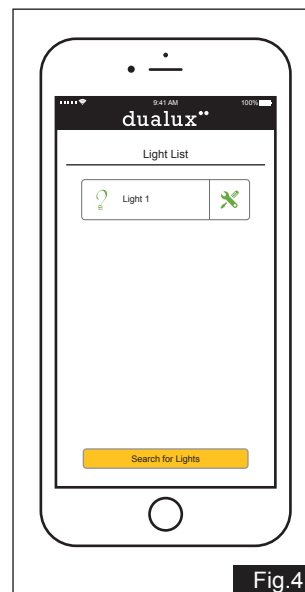
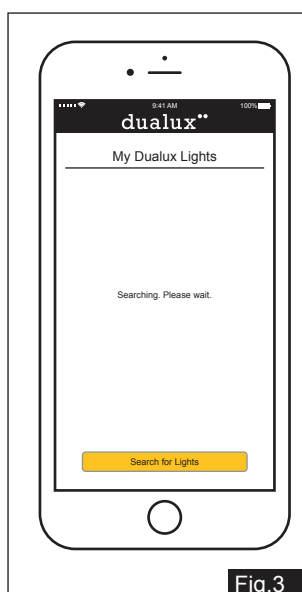

Fig.4
Fig.3
**Note: Range set too high may increase false triggering.** (See Fig. 3 and Fig. 4)
8. Click Fig.4 “ ” icon, select “Functions”, you can choose “Test”, “Auto”, or “Custom Setting”, which are the same as the step 5,6,7.